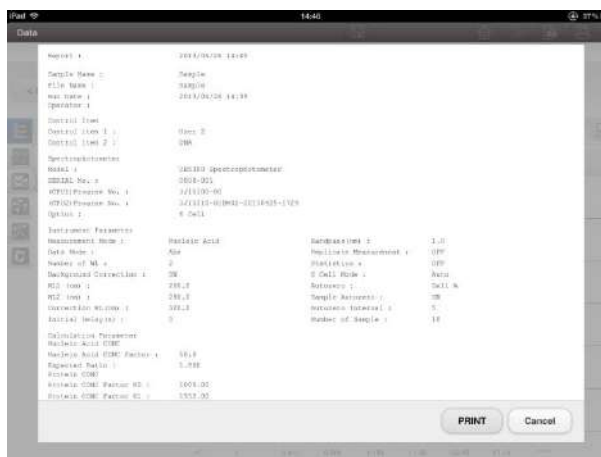

Fig. 4-66 Print Preview Window
(3) Print preview (Fig. 4-66) will be shown.